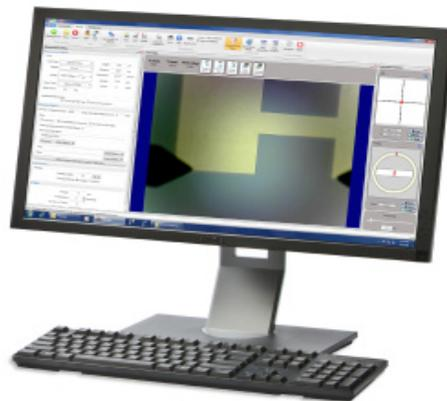

Figure 2-13: Video Monitor
- A video monitor that provides a 24-inch, high-resolution, flat-panel color display (see Figure 2-13). It shows programs and graphics in full color, along with a color video image of the sample surface from the USB camera in the tower assembly.